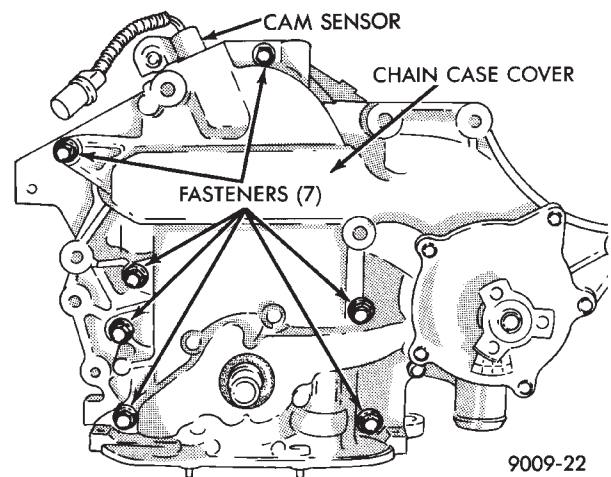

Fig. 3 Timing Chain Case Cover
- (13) Remove cam sensor from chain case cover (Fig. 3).
- (14) Remove chain case cover (Fig. 3).